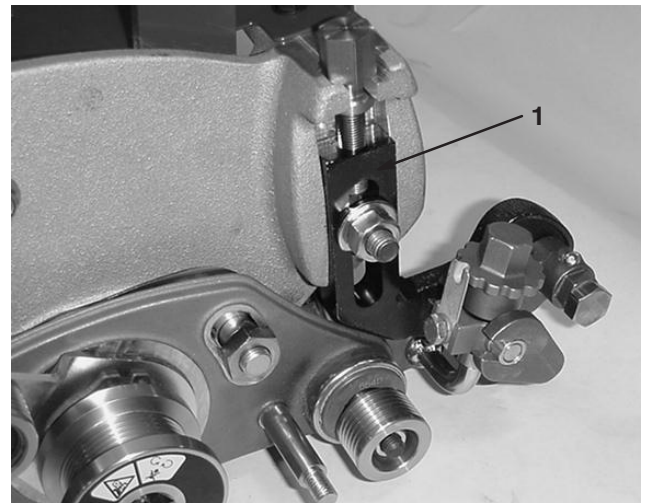
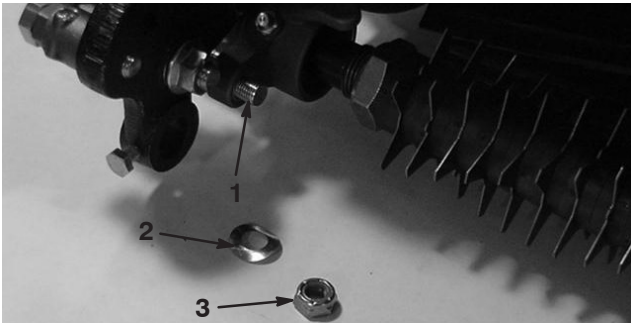

Figure 11
Figure 12
19. Loosely install the right-hand height-of-cut arm assembly onto the side plate using the existing carriage bolt, nut, and washer (Fig. 11). Make sure that the rod end height-of-cut arm assembly slides into the bushing in the hole in the groomer drive assembly (Fig. 12).
20. Secure the height-of-cut arm assembly rod end to the groomer drive assembly with a spring washer and locknut (Fig. 12). Do not overtighten locknut. Washer should be compressed but the arm must be free to pivot.
35. Loosely install the left-hand height-of-cut arm assembly onto the side plate using the existing carriage bolt, nut, and washer (Fig. 11). Make sure that the rod end height-of-cut arm assembly slides into the bushing in the hole in the groomer drive assembly (Fig. 12).
36. Secure the height-of-cut arm assembly rod end to the groomer drive assembly with a spring washer and locknut (Fig. 12). Do not overtighten locknut. Washer should be compressed but the arm must be free to pivot.